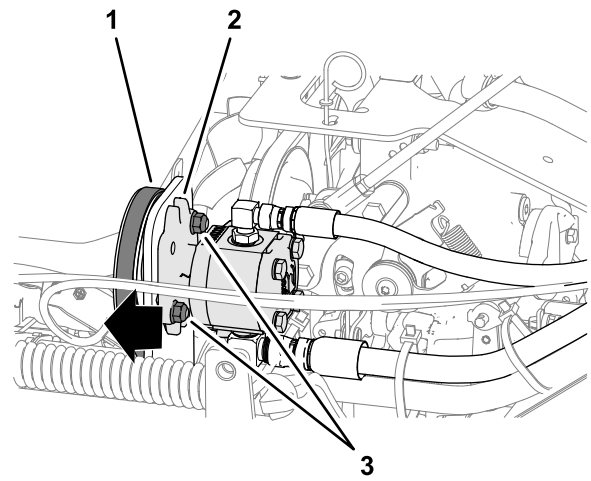

Figure 51
4. Slide the pump outward (Figure 51) in slots and torque the flange locknuts to 37 to 45 N·m (27 to 33 ft lb).
3. Loosen the 2 flange locknuts (3/8 inch) securing the auxiliary pump to the mounting bracket (Figure 51).